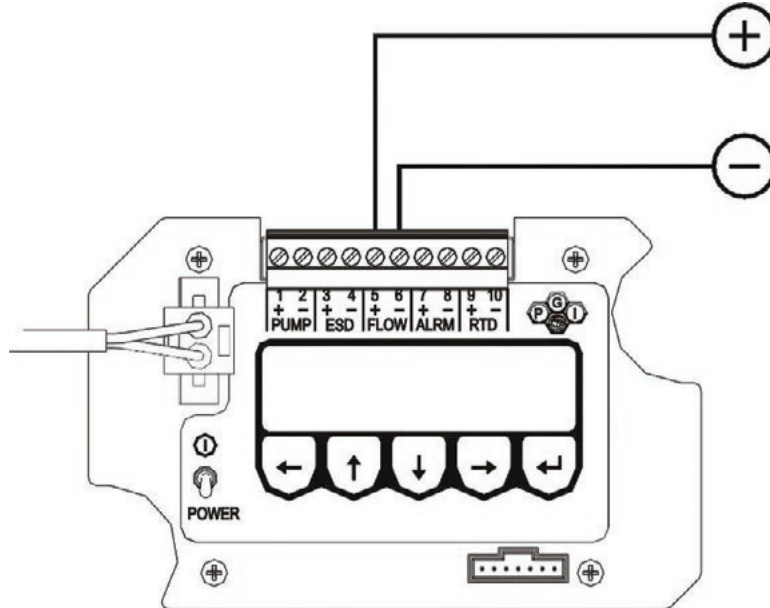

Figure 10: Flow Terminals
C. FLOW Terminals 5 and 6 (refer to Figure 10)